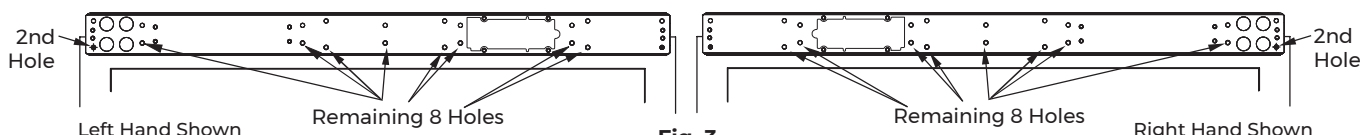

Fig. 3
4. Ensure backplate is aligned with door frame. Using the backplate as guide, mark and drill second mounting hole. (Fig. 3)
6. Using backplate as a guide, drill and tap remaining eight (8) holes in frame. (Fig. 3)
7. Secure with additional eight (8) screws and tighten.
8. **For concealed wiring:** Using the backplate as a guide, mark and pre-drill two (2) conduit holes with the 3/16" drill. Then use the Ø7/8" hole saw or equivalent to drill two (2) conduit holes.